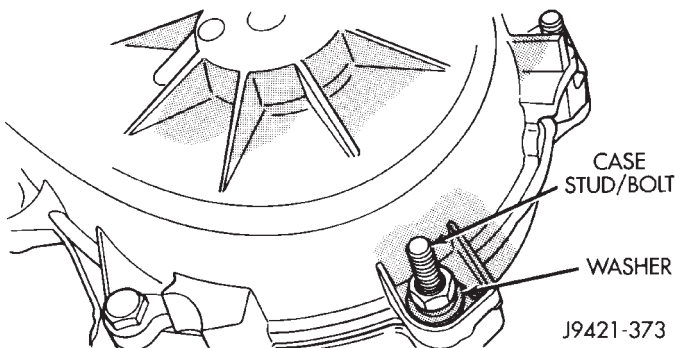

Fig. 99 Washer Installation On Case Stud And Dowel Bolts
(7) Verify that oil pump is aligned and seated on rear case. Reposition pump if necessary.
(8) Check stud at end of case halves (Fig. 99). If stud was loosened or came out during disassembly, apply Loctite 242 to stud threads and reseal stud in case.
(9) Apply Loctite 242 to remainder of rear case-to-front case bolt threads and install bolts. Be sure lock washers are used on studs/bolts at case ends. Tighten bolts, or stud nuts as follows: